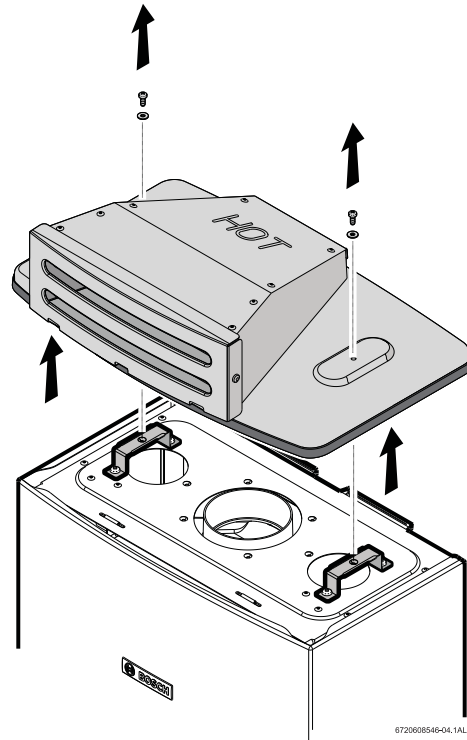

Fig. 2 Removing outdoor vent cap (outdoor installations only)
- ▶ **4.** Loosen two screws on the top of the appliance and remove outdoor vent cap (outdoor installations only), see Fig. 2.